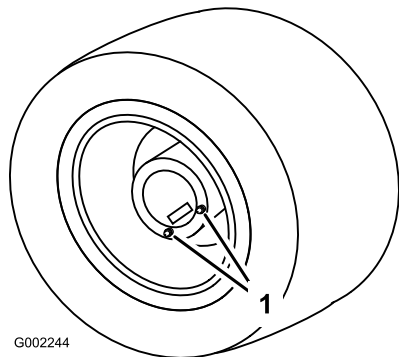

Figure 83
1. Position the sprayer on a level surface with the rear wheels positioned as shown in Figure 83.
3. Align a drain pan under the drain plugs and remove them from the hub (Figure 83).